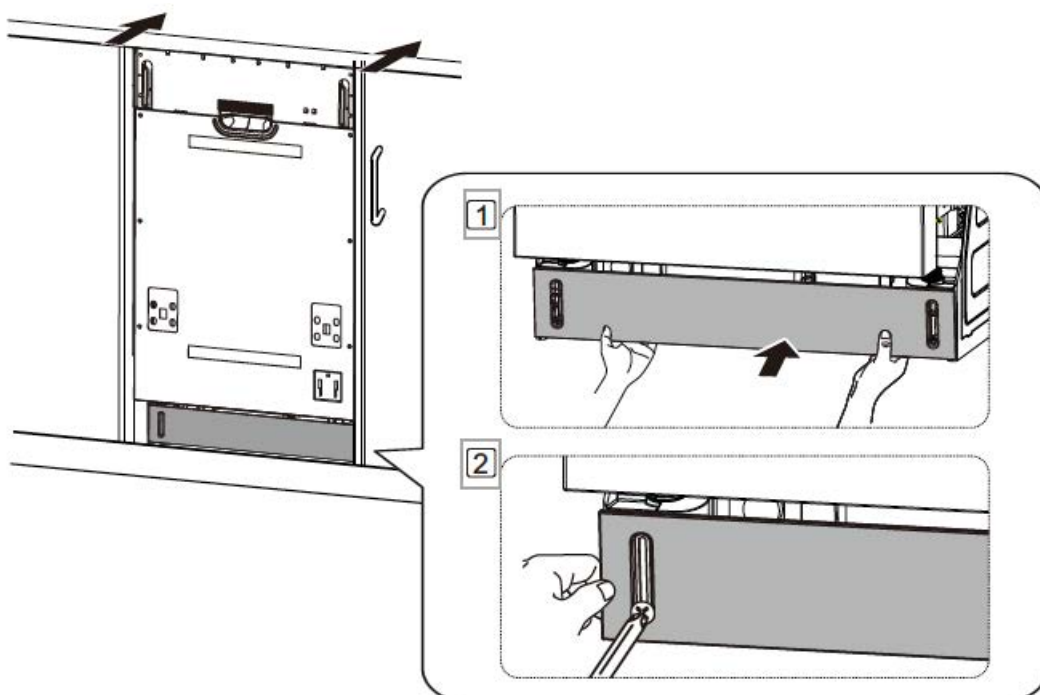

Figure 17
5. To install the kick plate with screw ST3.9* 13, refer to Figure 17.